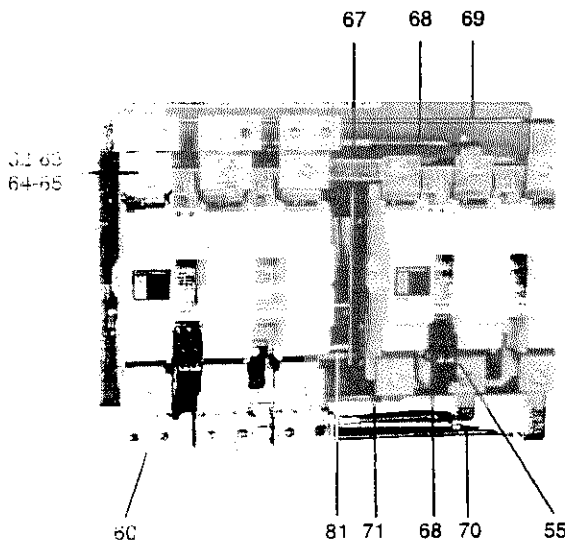

Figure 6
4. Observe the saving resistor interlock, Figure 6, Item 2 and compare to Sketches "A" and "B".